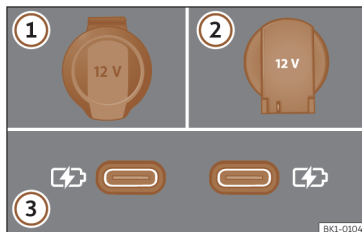

Fig. 159 Vehicle 12 volt socket.
>>> Fig. 159
Depending on the equipment and the country, the vehicle may also have USB connections **exclusively for charging or as a power socket** >>> Fig. 159 ③.